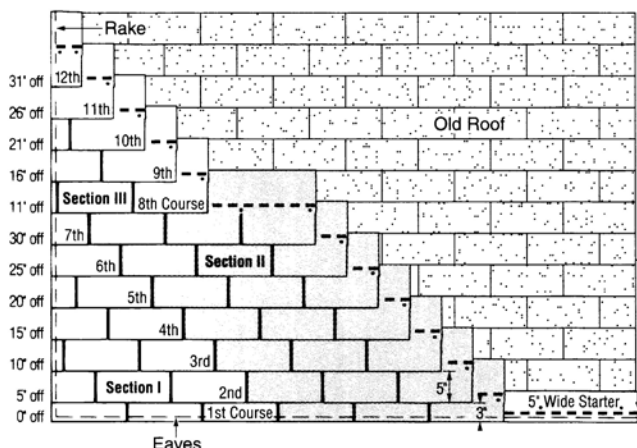

Figure 12-20: Five Off, Twelve Up, Nested.
1ST COURSE: The first course is made of 10" by 36" shingle strips made by cutting 2" off the bottom of the tabs of regular shingles. Align the top edge of the strips so they butt up against the tabs of the shingles in the old third course (Figure 12-20).
- Begin the second course by cutting 5" off the left end of a shingle and aligning the top edge with the butt edge of the shingle in the old fourth course (Figure 12-20).
- Begin the eighth course by cutting 11" off the left end of a shingle and applying the 25" piece over the seventh course shingle, aligned with the left edge of the seventh course (Figure 12-20).